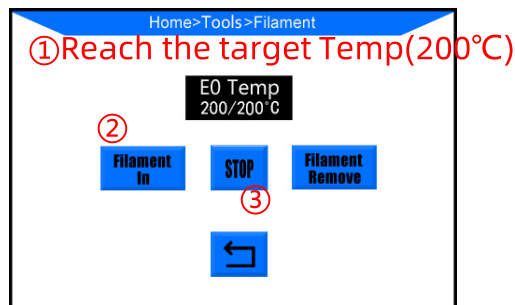

Figure 15
(4) As shown in Fig. 15, slide the print head to the left, when the target temperature (200 °C) reached, click "Filament in" again, the extruder will automatically feed the filament in till the filament is melted through the nozzle. Now, click "Stop" on the screen, you may use tweezers to clean the nozzle.